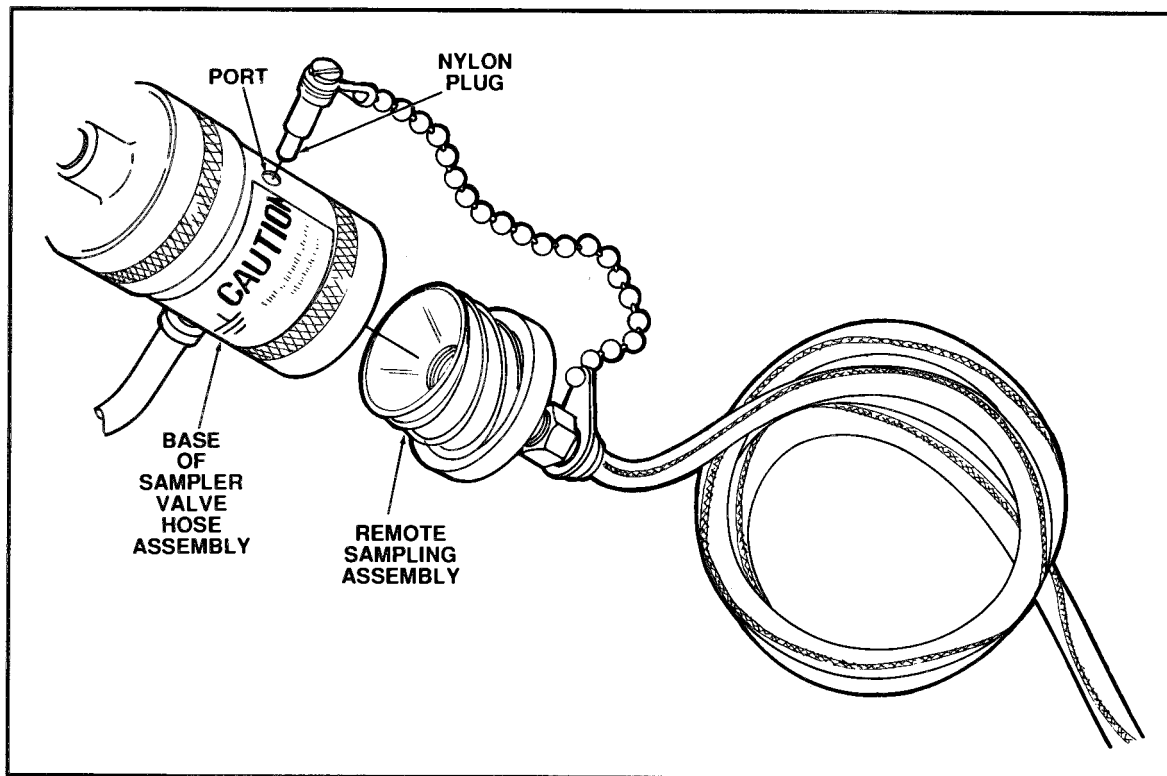

Figure 2.6 Attaching the Remote Sampling Assembly
- b. Force the nylon plug into the open port on the side of the sampler base tightly plugging the port hole to prevent leakage (Figure 2.6).